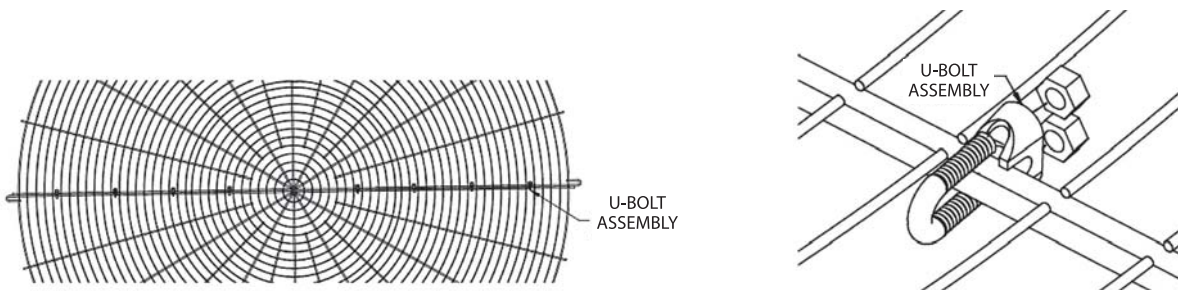

Figure 23 - U-Bolt Assembly Spacing & Arrangement
3. Join the two screen halves with "U" bolts, as shown in Figure 23.